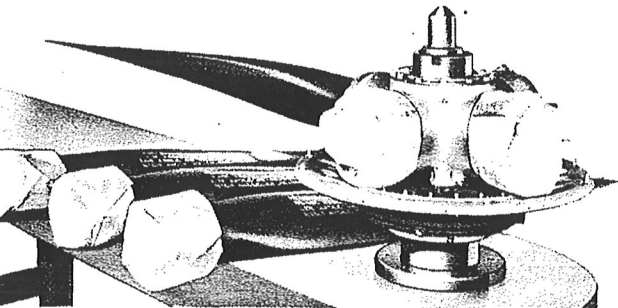

Figure 11—Propeller Properly Placed on Bench
- g. Remove the blades from the crate. Place the blades on a bench with the stenciled information up, and with the stack bearings and blade retaining nut overhanging the edge of the bench. (See figure 11.)
- i. Remove the paper covers shown in figure 11, from the root ends of the blades.